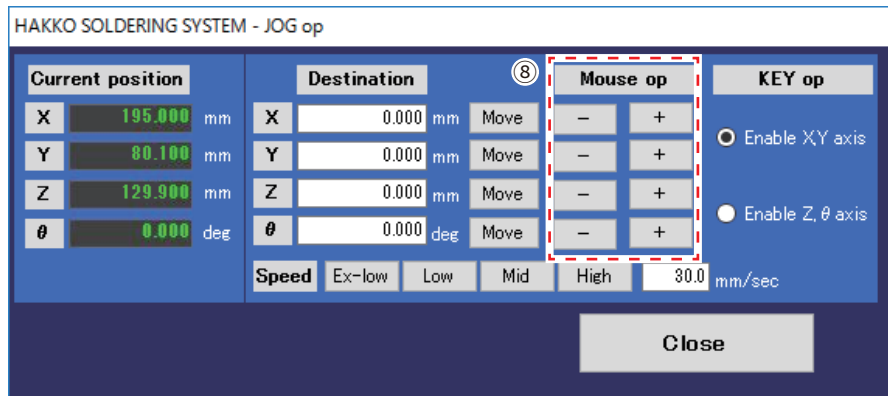

Fig. 7-129
⑥ In the Edit point screen, the original coordinate of the end point is set.
⑦ Open JOG operation screen (See Fig. 7-129).